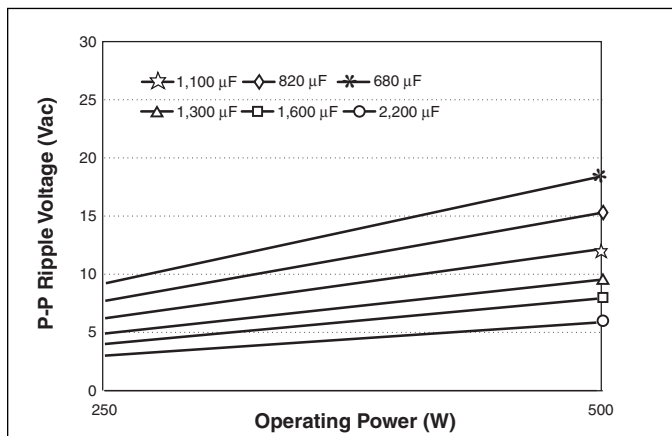

Figure 9-16 — Ripple voltage vs. operating power and bus capacitance, series combination of C1, C1 (Figure 9-1a)
**Determining Ripple Voltage on the Hold-up Capacitors.** Figure 9-16 is used to determine ripple voltage as a function of operating power and bus capacitance, and shows that the ripple voltage across the hold-up capacitors will be 12 Vp-p.